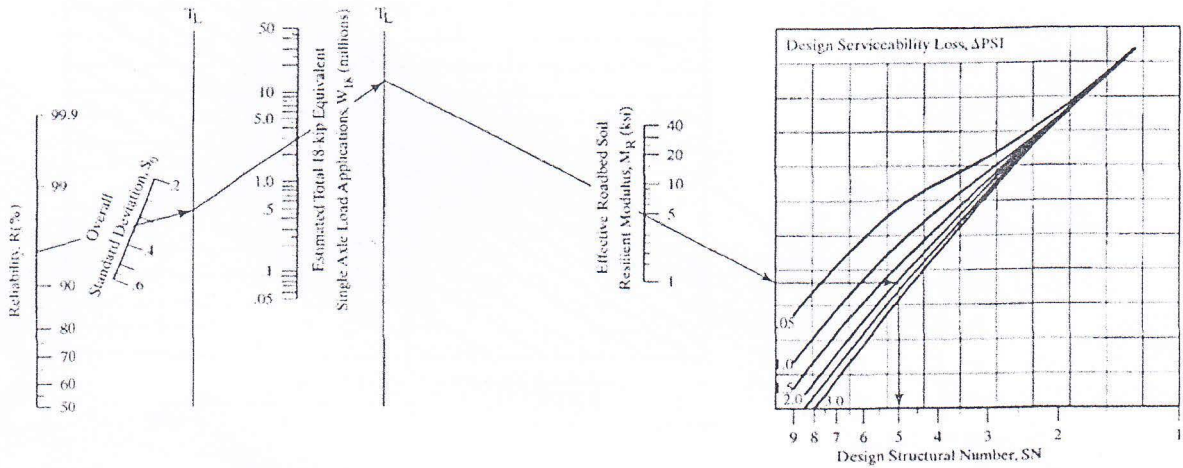

FIGURE 1
2. Calculate the total settlement (primary consolidation settlement and immediate settlement) of the square footing of size 2 m x 2 m, shown in Figure 1. Use 2:1 pressure distribution.